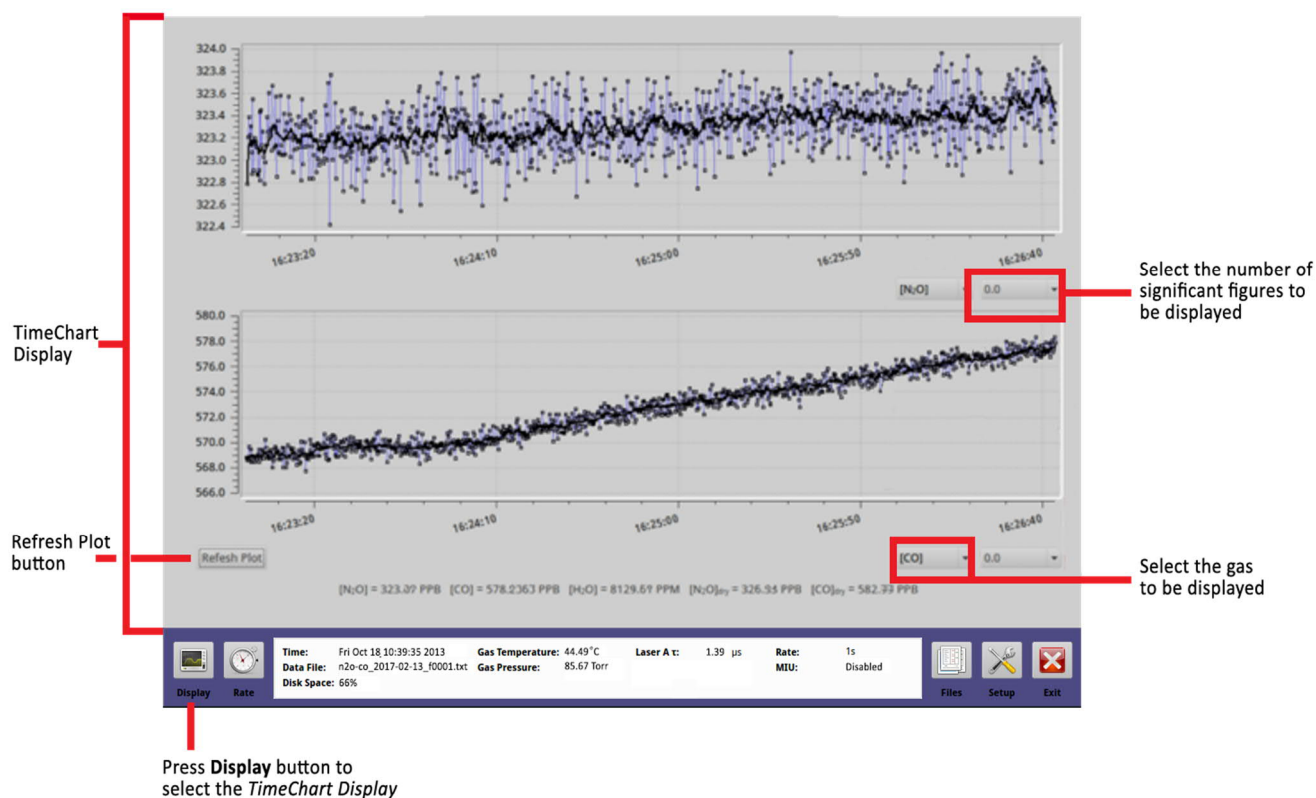

Figure 31: TimeChart Display (GLA351-N2OCM)
- *Time Chart Display* – Displays the concentration over time. (Figure 31)
Figure 31 shows the *TimeChart* with a continuous flow of gas. A 10-point running average (in black) is shown going through the raw data (shown in blue).
When Refresh Plot button is selected, (Figure 31), current data is added to the *Main Panel*/display.